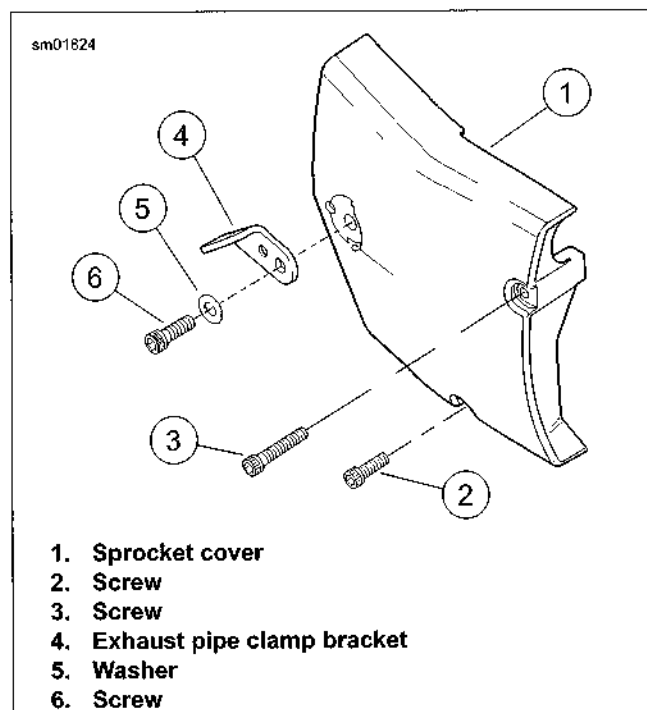
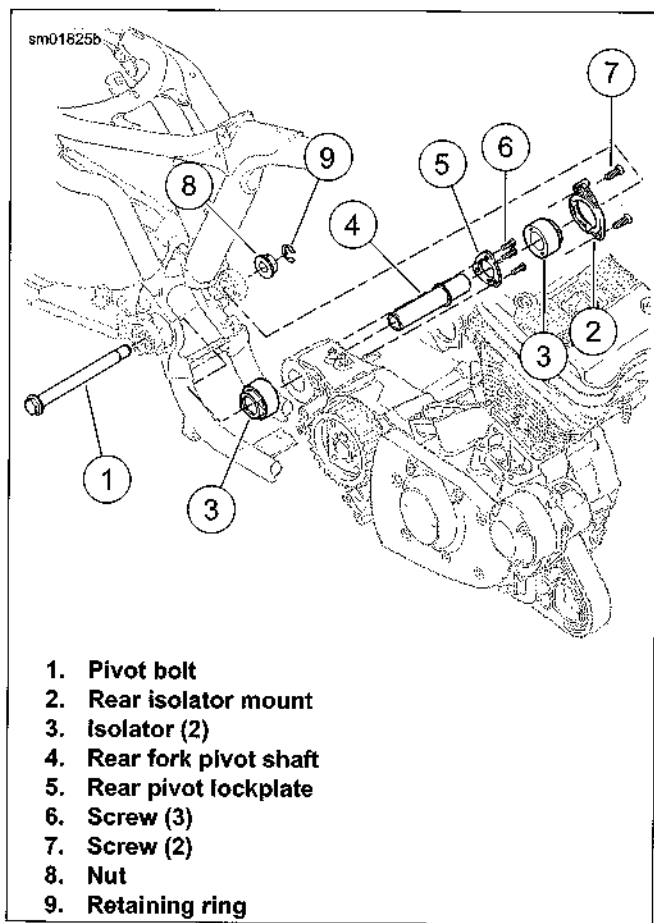

Figure 2-110. Sprocket Cover
Figure 2-111. Rear Engine Mount/Isolator
- a. See Figure 2-110. Remove screw (6), washer (5) and exhaust pipe clamp bracket (4).
- c. Remove sprocket cover (1).
8. See Figure 2-111. Remove retaining ring (9), nut (8) and rear fork pivot bolt (1).
15. See Figure 2-111. Remove two screws (7) securing rear isolator mount (2) to left side of frame. Remove isolator mount and left isolator (3).
16. Remove three screws (6) securing rear pivot lockplate (5) to rear of engine case. Remove lockplate and rear fork pivot shaft (4).
17. Carefully pry rear end of engine to left approximately 1.0 in (25.4 mm). Remove right rear isolator (3) from frame.
- See Figure 2-111. Install **new** right rear isolator (3) into frame, lining up tabs on isolator with slots in frame. Slide
- See Figure 2-111. Install rear fork pivot bolt (1).
- Install pivot bolt nut (8).
- Install retaining ring (9).
- See Figure 2-110. Install sprocket cover (1). Secure with two screws (2, 3). Long screw goes in top hole, short screw in bottom hole. Leave fasteners loose.
- Install exhaust pipe clamp bracket (4), washer (5) and screw (6). Tighten to 30-33 ft-lbs (40.7-44.7 Nm). Now tighten screws (2, 3) to 80-120 **in-lbs** (9.0-13.6 Nm).